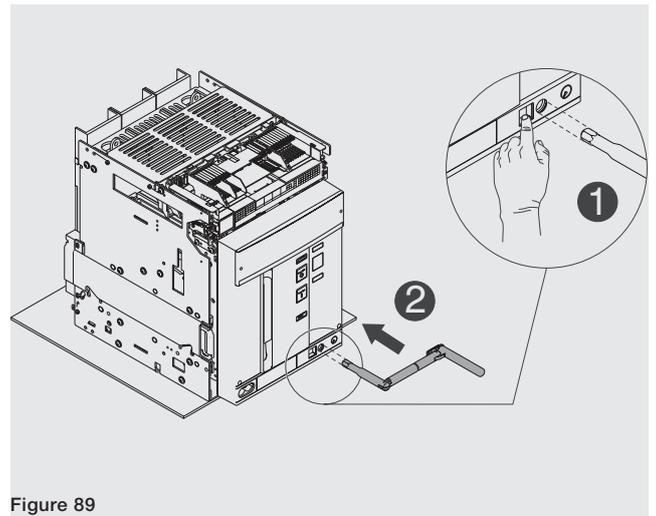

Figure 89
9. Press the lock pushbutton and insert the crank in the moving part. In this phase the moving part is still in **DISCONNECT** position. See Figure 89.